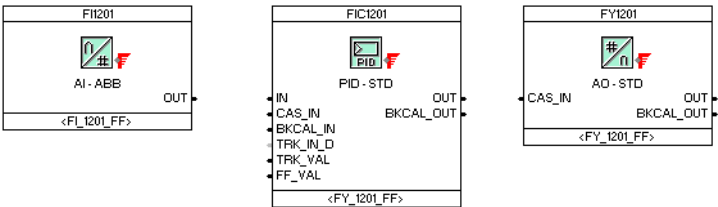

Figure 168. Function Blocks
- 6. Select a function block and place it on the canvas with the left mouse button held down. As an example use an analog input (AI), a controller block (PID) and an analog output (AO) as shown in Figure 168.